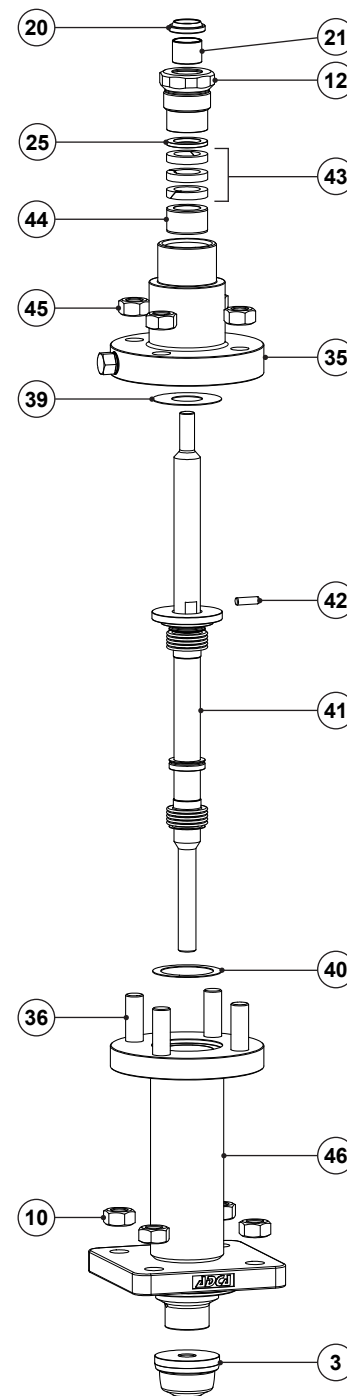

Fig. 13 - Bellows sealing (BG1)
1. Undo the nuts (45) gradually in a crisscross pattern and separate the bellows bonnet (35) from the bellows housing (46).
2. Unscrew the gland nut (12) and remove it carefully together with the O-rings (22, 23).
3. Pull out the washer (25), graphite packing set (43) and spacer (44) using a suitable tool.
4. Clean the packing box, insert the spacer (44), and the new graphite packing set (43) rings one by one. When fitting the graphite rings ensure the scarf joints have an offset from the one below by 90°. See Fig. 13.
5. Renew the scraper ring (20) and plain bearing (21) if necessary.
6. Fit the washer (25), apply a slight smear of anti-seize lubricant to the gland nut (21) and screw it loosely with your fingers until resistance can be felt. The packing must not be significantly compressed at this stage.
7. Undo the nuts (10) gradually in a crisscross pattern and separate the bellows housing (46) from the valve body (1).
8. Firmly fix the valve plug (3) on a vise, fit a wrench on the two slits close to the locking pin (42) and unscrew the plug (3) from the stem (7).
9. Remove the valve stem (7) with the bellows (41) from the bellows housing (46).
11. Fix the new valve plug (3) on a vise with the thread facing up. The vise jaws should be gripping the plug section with the largest diameter.
12. Fit a new gasket (39) and insert the new bellows (41) on the bellows housing (46).
13. Apply a suitable high temperature adhesive compound on the lower stem (7) thread and screw it onto the seat, tightening with 50 Nm (DN 15 to 50 – 1/2" to 2") and 120 Nm (DN 65 to 100 – 2 1/2" to 4").
14. Insert the pin (42) onto the stem (7) and fit a new gasket (39).